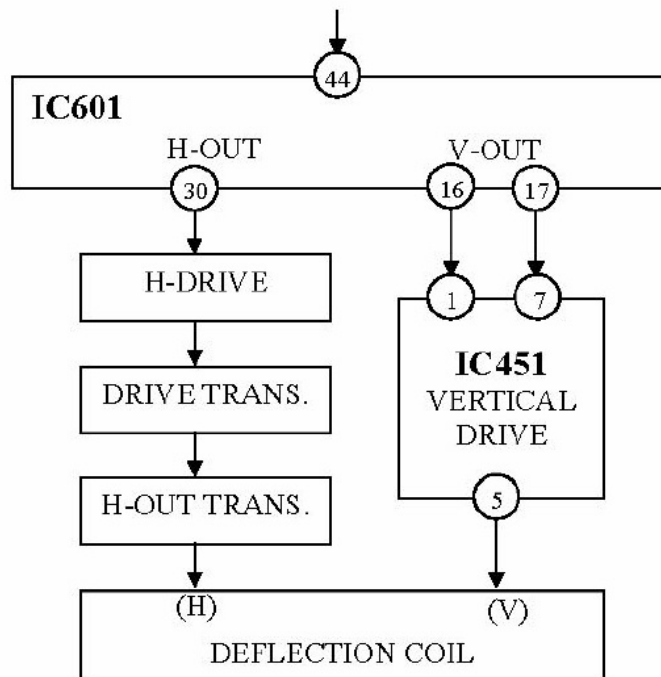

Fig 4.0
1. The diagram in Fig 4.0 shows the signal flow for the deflection circuits.